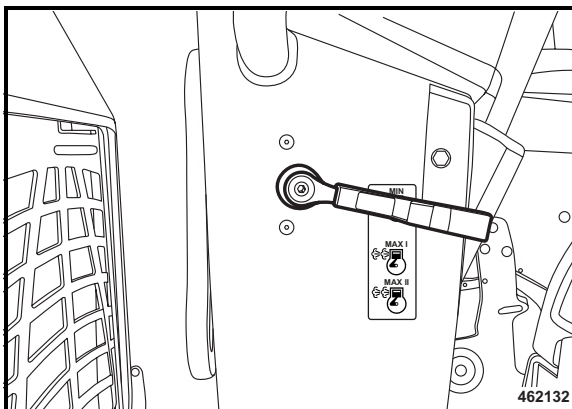

Fig. 96
- Set the throttle lever (Fig. 96) to position "MIN".